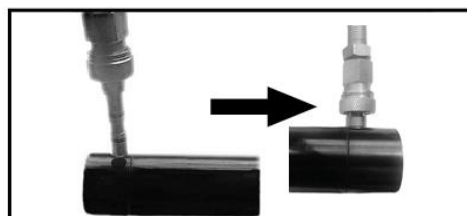

FIG 4 INSERT FILL ADAPTOR
- Follow FIG 4 to insert fill adaptor to your pistol.